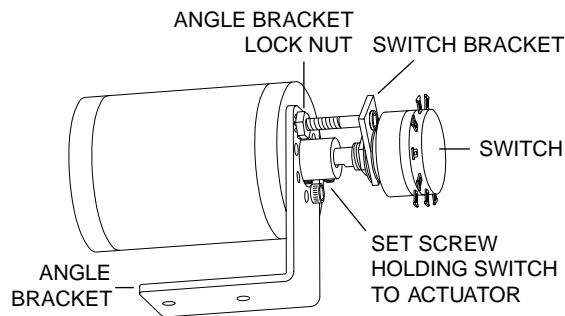
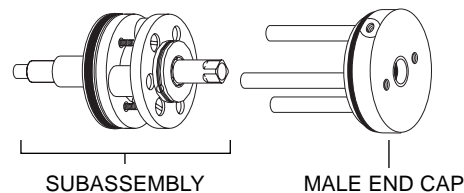

Figure 3: Switch assembly
Figure 5: Removal of subassembly from male end cap
11. Pull the subassembly off the male end cap as indicated in **Figure 5**. (NOTE: Recently purchased actuators may have a subassembly made primarily of molded plastic, differing in appearance from the one shown in **Figures 3, 4, and 5**. The procedures are the same for either type.)